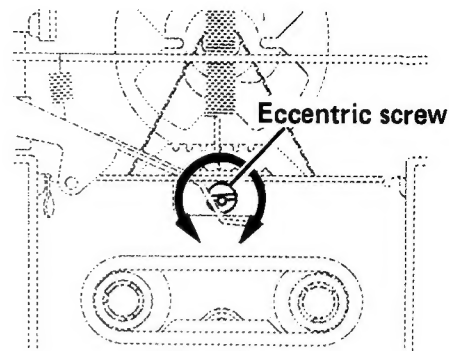

Fig. 4.9 Adjustment screw for pinch roller operation
**Pinch roller operation.** Remove the Adjustment Plate or the cassette. Move the mounting plate inwards. Check that both pinch rollers touch the capstans at exactly the same time. The pinch rollers will start rotating when they meet the capstans. If required, adjust the eccentric screw shown in fig. 4.9.